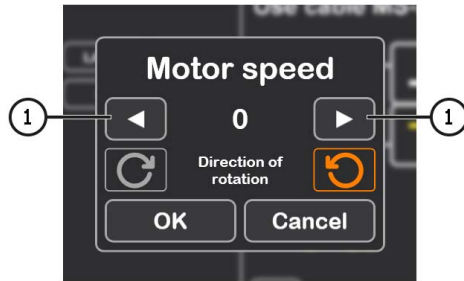

Figure 26
4.1. After activating the diagnostics mode, a preliminary alternator check window will open, see Figure 26.
4.2. Using the alternator drive control buttons (see item 1 in Figure 26), set the speed of the alternator pulley rotation within the range of 100 to 150 rpm.
4. Before activating the diagnostic mode, a preliminary alternator check window will open, see Fig. 26.
5. After clicking the "Automatic test" button, a preliminary alternator check window will appear, see Figure 26.
5.1. Using the alternator drive control buttons (see item 1 in Figure 26), set the speed of the alternator pulley rotation within the range of 100 to 150 rpm.
5. Press the “**Manual test**” button; the alternator preliminary test window will open (see Fig. 26).
6.1. Using the alternator drive control buttons (see item 1, Fig. 26), set the alternator pulley rotation speed within the range of 100 to 150 rpm.